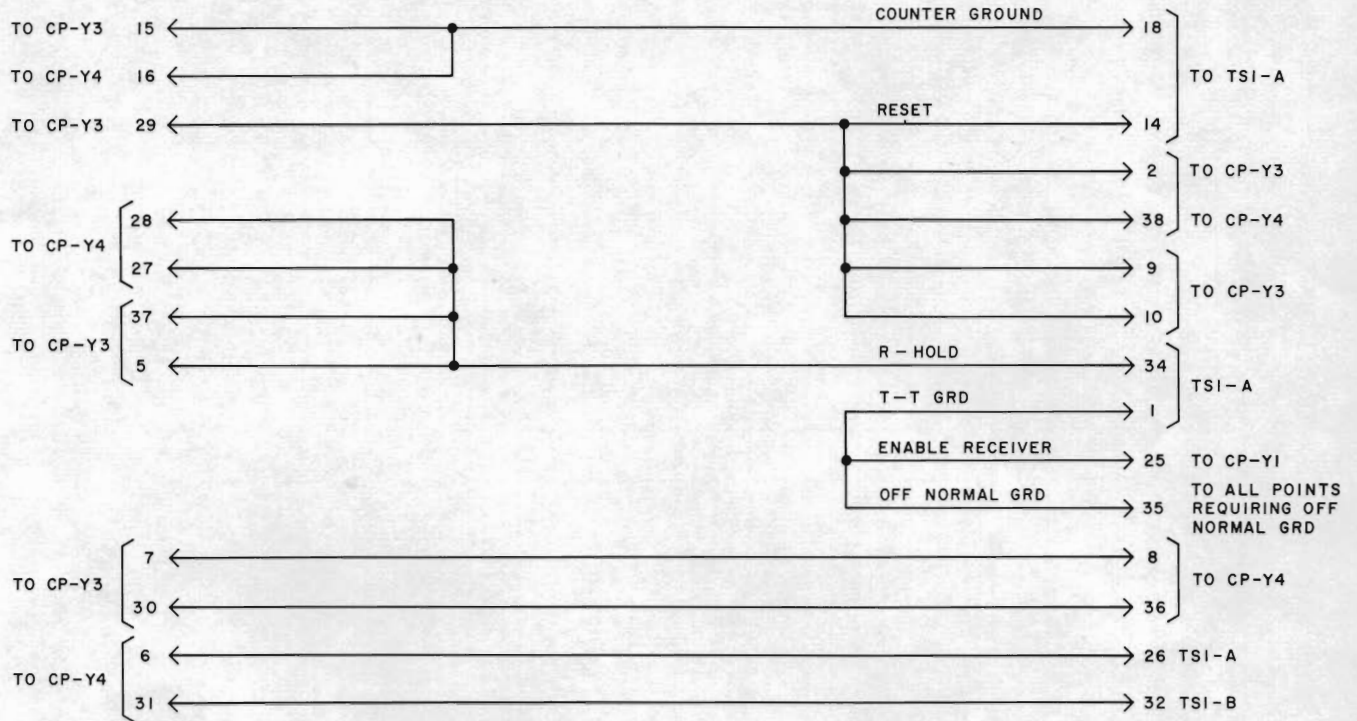

Fig. 7 — Adapter for 407A Selector, Schematic
2.05 Fig. 7 shows the schematic of the adapter for the 407A selector circuit CP-Y6.